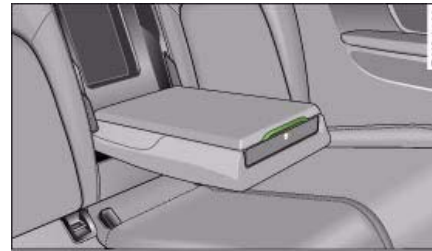

Fig. 223 Rear centre armrest: First-aid kit
- Pull up the catch to open the storage compartment ⇒ fig. 223.